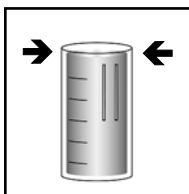

Figure 1
1. Fill the dilutor snapper cup to the -ml- marking with **hydrogen peroxide free water** (fig. 1).